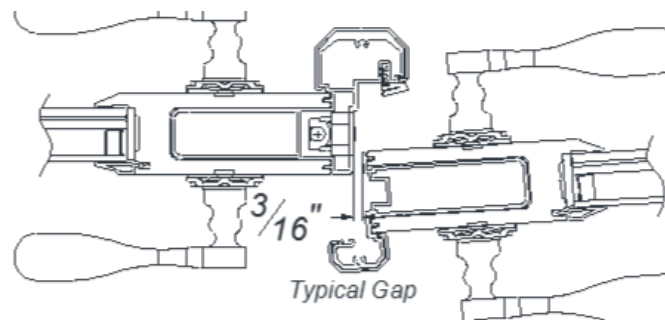

Figure 12
27. Check door alignment. **If a single door**, check against the frame jamb. If a double door, check against the inactive panel. 3/16" of space should be showing when the active panel is slightly ajar (Figure 12).